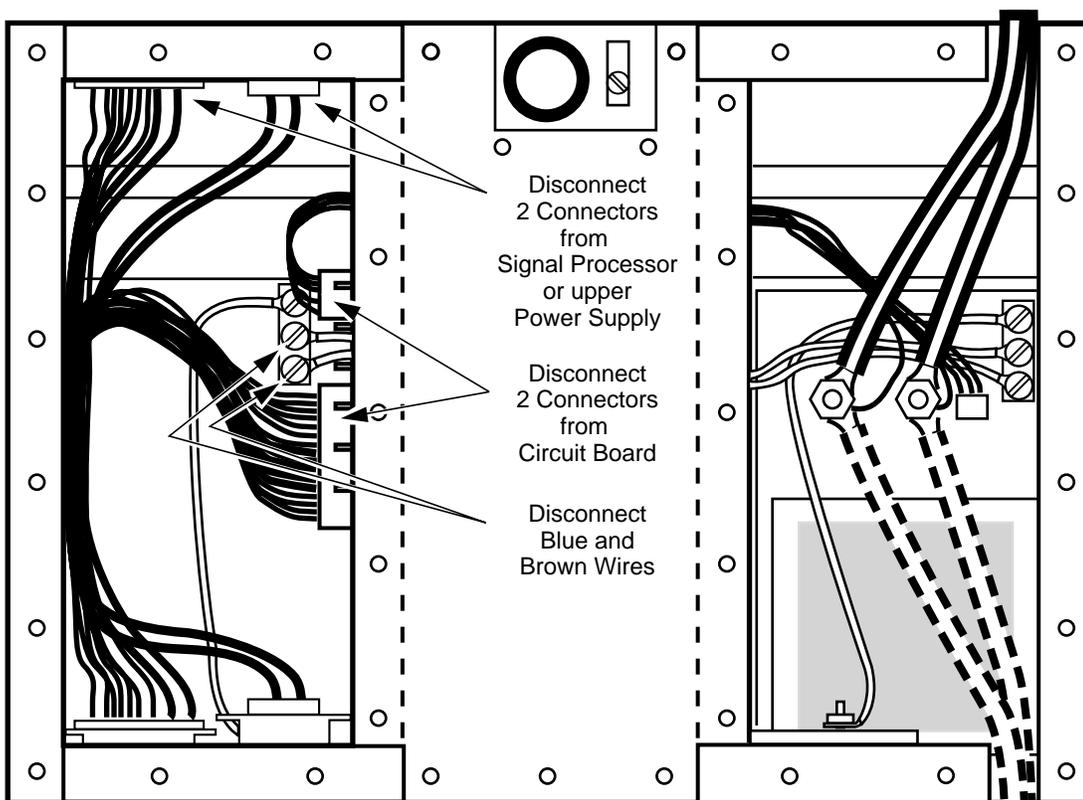

Figure 4-2. Removal of Pioneer Multi-Output Power Supply Assembly
1. Remove the left rear cover of the power supply frame, as viewed from the rear, to expose the wiring connections at the rear of the Multi-Output power unit. See Figure 4-2.